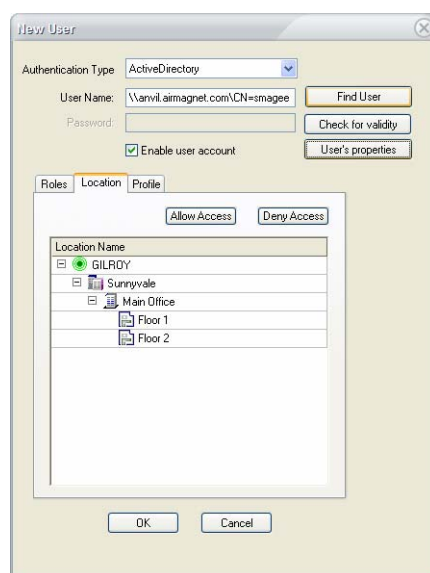

Figure 4-36: Designating location of user access
- 13) Click the **Location** tab, the New User dialog box refreshes. See Figure 4-36.
As shown in Figure 4-36 above, the Manage Sensors screen contains the following components: